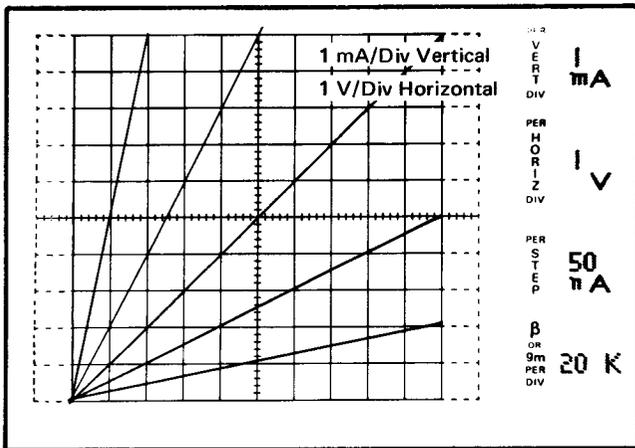

Fig. 2-6. Display of I vs. V for a  $1\text{ k}\Omega$  resistor using various settings of the VERTICAL and HORIZONTAL switches.
17. Turn the VERTICAL switch clockwise and note that as the vertical deflection factor decreases the slope of the line decreases (see Fig. 2-6). Turn the VERTICAL switch counterclockwise from the  $1\text{ mA}$  position and note that the slope increases. Also note that the PER VERT DIV readout changes in accordance with the position of the VERTICAL switch. Reset the VERTICAL switch to  $1\text{ mA}$ .